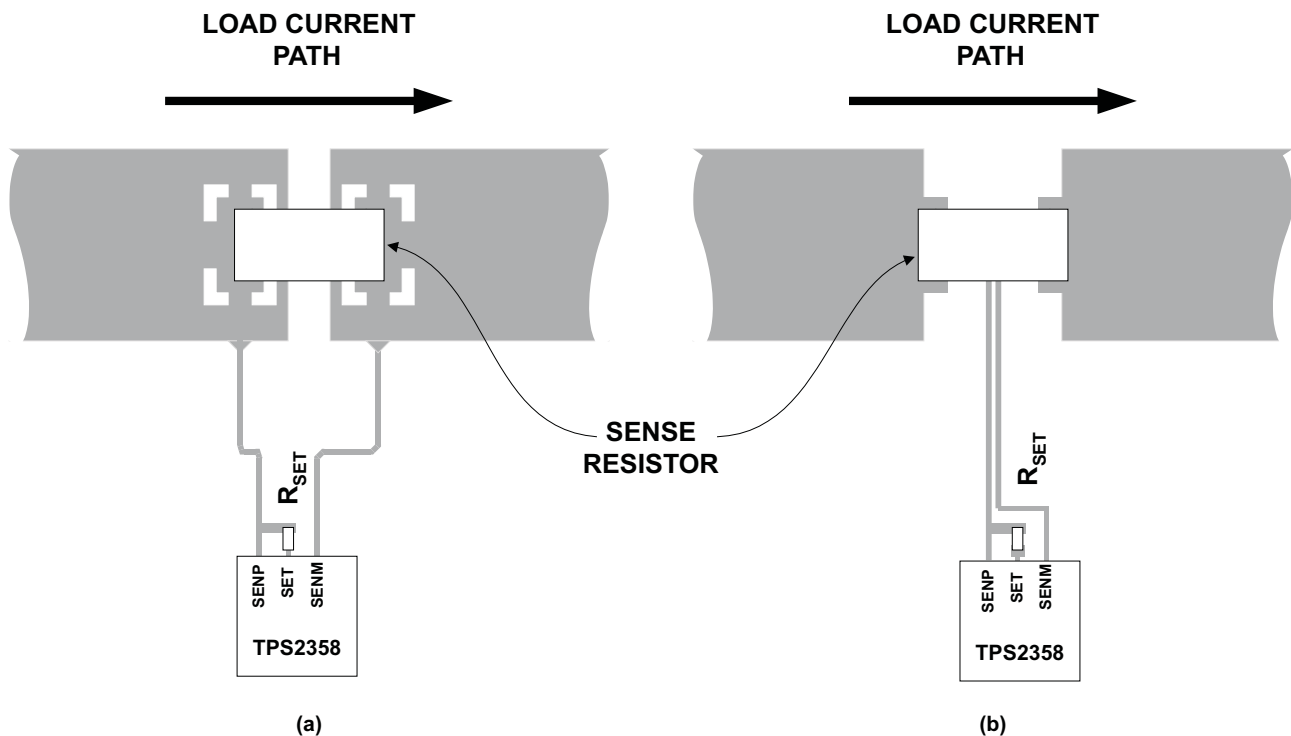

Figure 26. Recommended R_{SENSE} Layout
- SEN_Mx and SEN_Px runs must be short and run side by side to maximize common mode rejection. Kelvin connections should be used at the points of contact with R_{SENSE} (Figure 26).